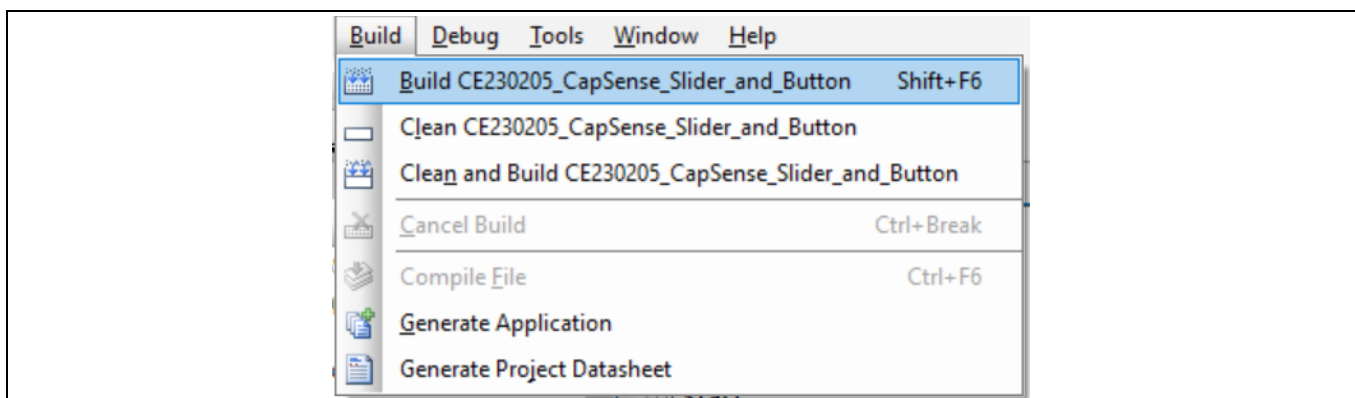

Figure 14 Build Code Example from PSoC Creator
4. Build the code example by choosing **Build > Build <Project Name>**, as shown in Figure 14. A *.hex* file is generated after a successful build process.